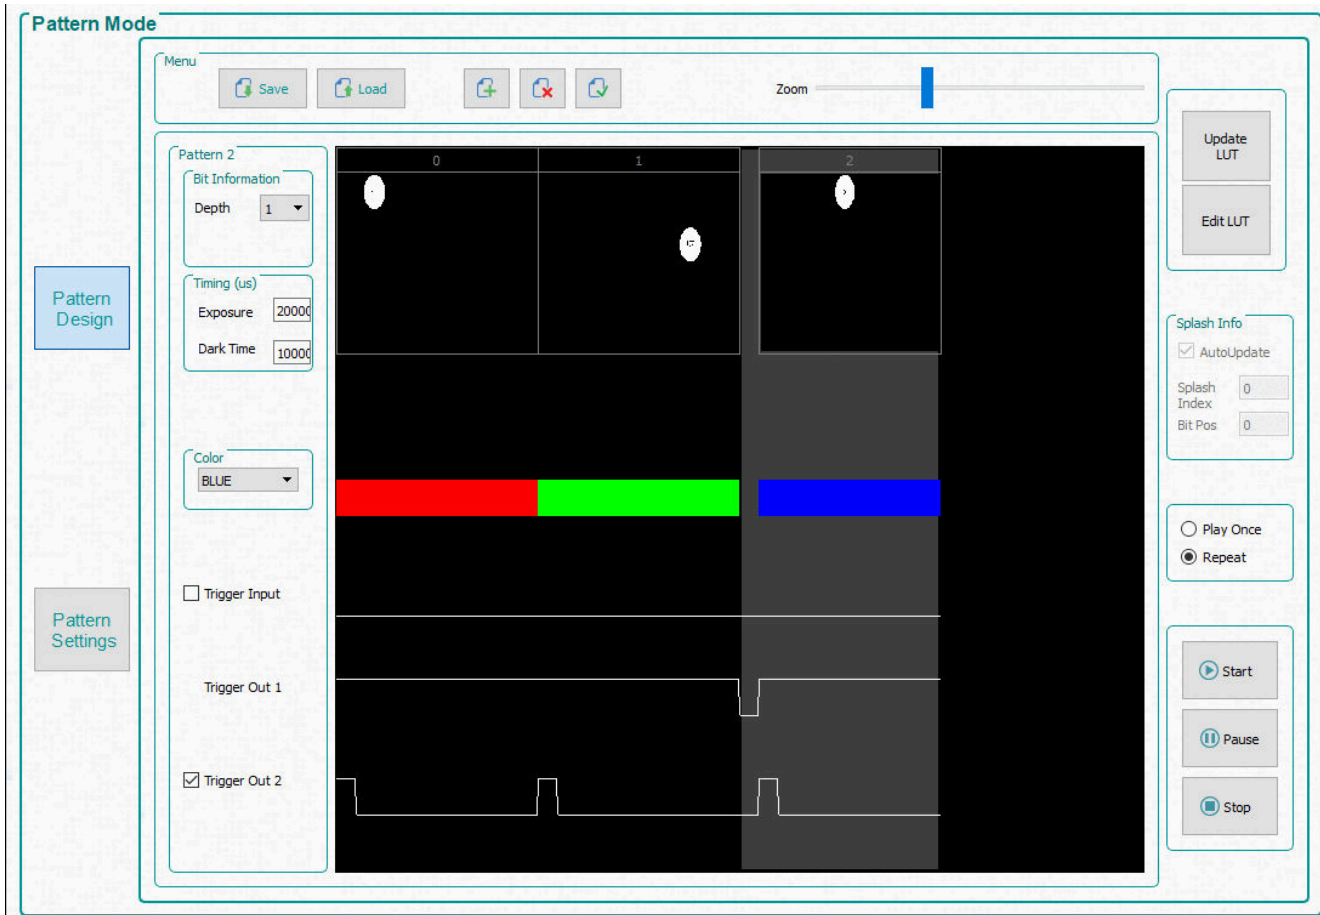

Figure 3-10. Three Pattern Sequence
7. Select the third pattern and choose a bit depth of 1. Set exposure to 200000 μ s and set dark time to 100000 μ s, and select **Blue** as the color. Figure 3-10 shows the pattern sequence. The *Zoom* bar can be used to zoom in and out which is useful when many patterns are loaded into the panel.